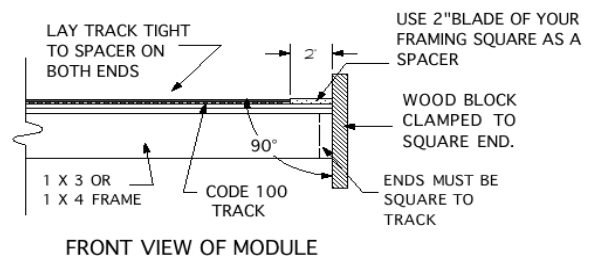

FIGURE 6
1. Mainline tracks end 2" from the end of the module. Figure 6 illustrates one method of accurately establishing the 2" cutback.